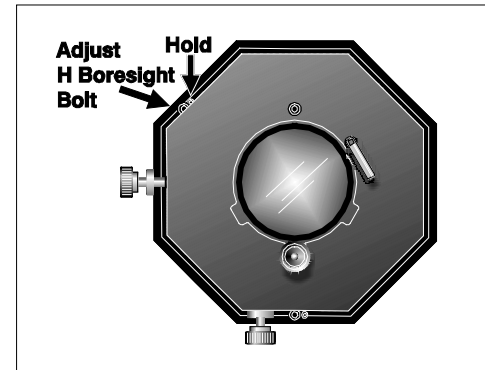

Figure 2.39. Adjust L/R Boresight
- *If focus on the paper improves*, this indicates that the right side of the image is focusing *in front of* the screen. See Figure 2.39.